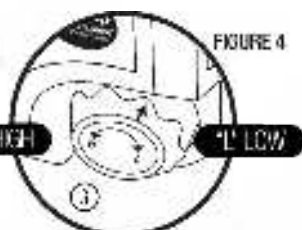

FIGURE 5
- Use this chart to determine the best speed for the bit diameter. **FIGURE 5.**